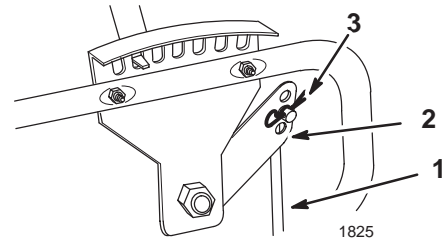

Figure 6
- Secure the upper end of the height control rod to the height adjustment handle with a hairpin cotter (Fig. 6).